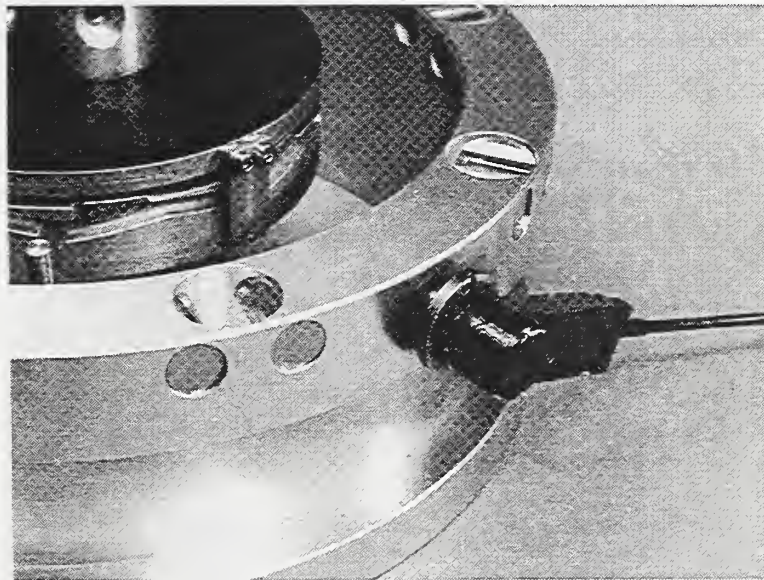

Figure 12. Temperature sensor mounting bolt with part temperature sensor magnetically attached to it
Step 7. If your CMM has part temperature compensation, attach the temperature sensor to the temperature sensor mounting bolt. Refer to Figure 12.